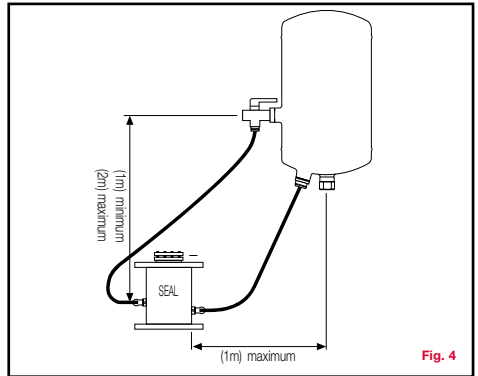

Fig. 4
- The pot should be sited at a MIN 1 meter MAX 2 meter above the seal. No more than 1 meter from the side of the seal. See Fig. 4